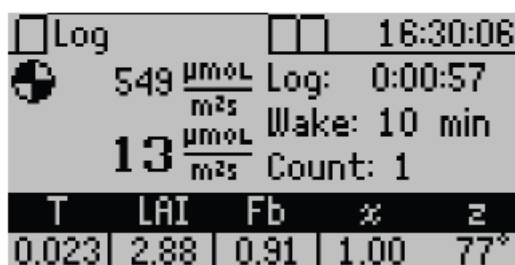

Figure 9 Log tab with measurements set every 1 min
3. To activate the logging mode, press ENTER. The screen will begin to return data (Figure 9).